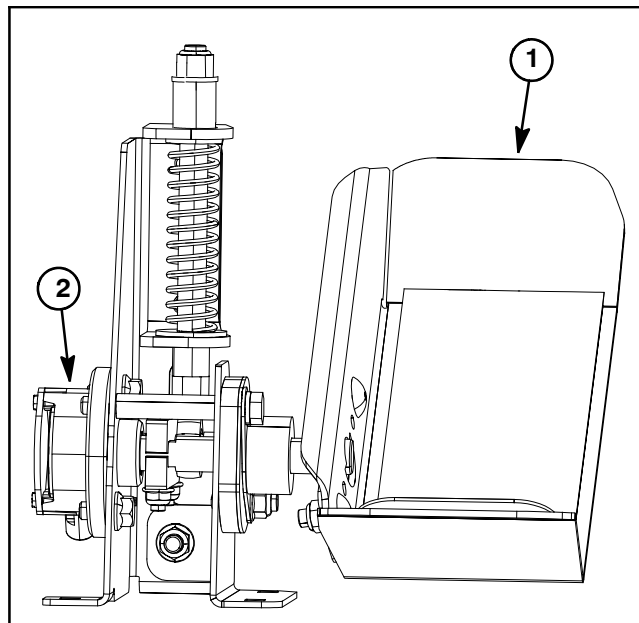

Figure 54
The traction pedal position sensor is connected to the traction pedal assembly (Fig. 54). This position sensor determines the neutral band for the traction pedal, the direction of travel desired by the operator and the traction speed. The position sensor is a single analog, dual digital signal electronic device. The position sensor portion is a variable resistor that provides an analog signal for the TEC controller to determine the desired ground speed based on how far the traction pedal is moved. The traction pedal position sensor also houses two (2) switches that are used to determine the neutral position (deadband) and the indicated direction of travel (forward or reverse). As the traction pedal is depressed, the internal wiper of the position sensor moves and sends the analog signal to the TEC controller to determine machine direction and speed.